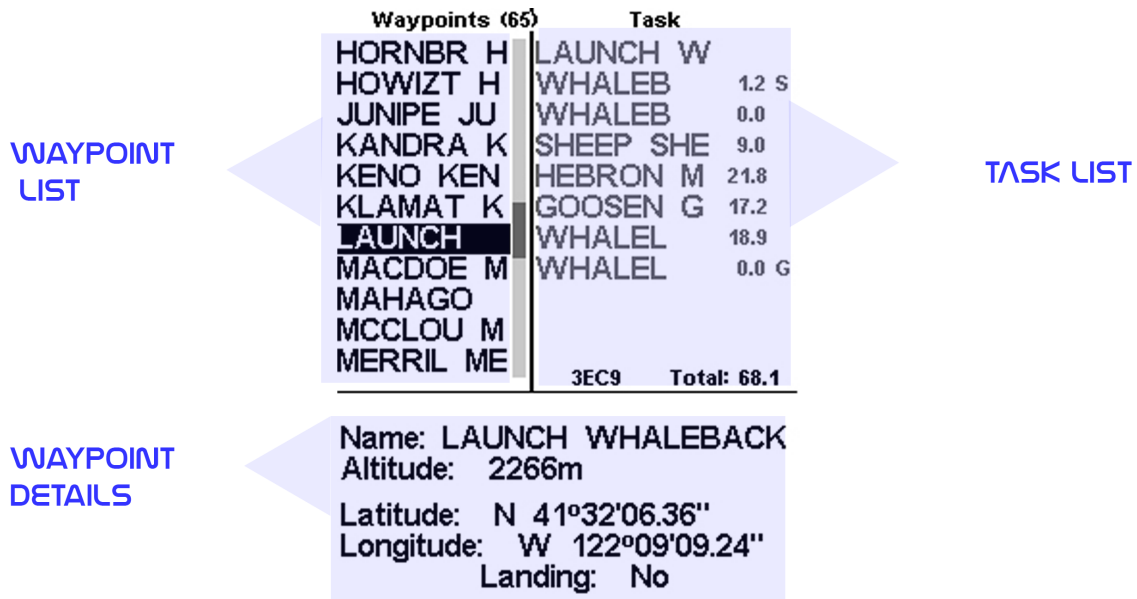
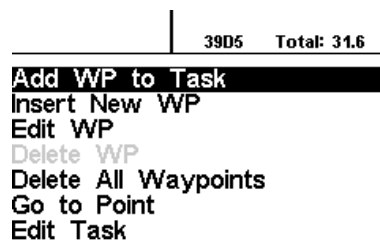

Figure 4.2: Waypoints and TaskScreen
Figure 4.3: Waypoints Action Menu
The Waypoints/Taskpage allows the user to manage waypoints, and define a route/task. As shown in Figure 4.2, the page is divided into 3 areas, namely the waypoint list (WL); Tasklist (TK) and selected waypoint details/options list (DO). The DO area can change according to which submenu you are in. Specifically, it can show the selected waypoint data, or a list with possible actions for the waypoints. Entering the page activates the WL area. At the top of the page next to the title Waypoints, is the total number of Waypoints stored in the NAV SD instrument1. The first waypoint on the list appears highlighted, and the corresponding data of the selected waypoint is shown in the DO area. As the cursor is moved to a different waypoint so the data changes matching the newly selected waypoint. If the waypoints list is empty a list of available actions is shown in the DO area. Since no waypoint exists only the *Insert new Waypoint* action is available. Pushing the ENTER key when a waypoint is selected activates the waypoint actions menu (WAM). A list with the available actions is shown in the DO area Figure 4.3.
Available WAM options appear in black, otherwise in grey. For example, in Figure 4.3 the option *Delete WP* is not available because the Waypoint list is empty.